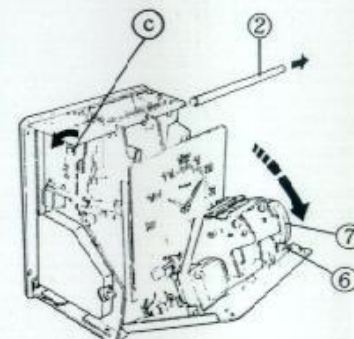

Fig. 3
- (1) Remove the hook ③ in the direction of the arrow and pull out the shaft ②. Then lower the type and clock section as shown in Fig. 3.